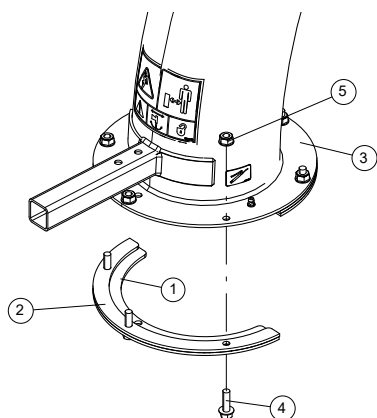

Figure 2.7, Attach Clamp Ring and Spacer
1. Attach one clamping ring (1) and one spacer ring (2) to discharge tube base (3) using three $\frac{3}{8}$ " $\times$ 1-1/4" bolts (4) and nylock nuts (5). Tighten leaving 1/16" gap to assist in mounting to flange. See Figure 2.7.
2. Slide the tube onto the mounting flange on the chipper frame. The discharge clamp (1) should slide underneath the lip of the flange. Tighten the bolts to secure it.